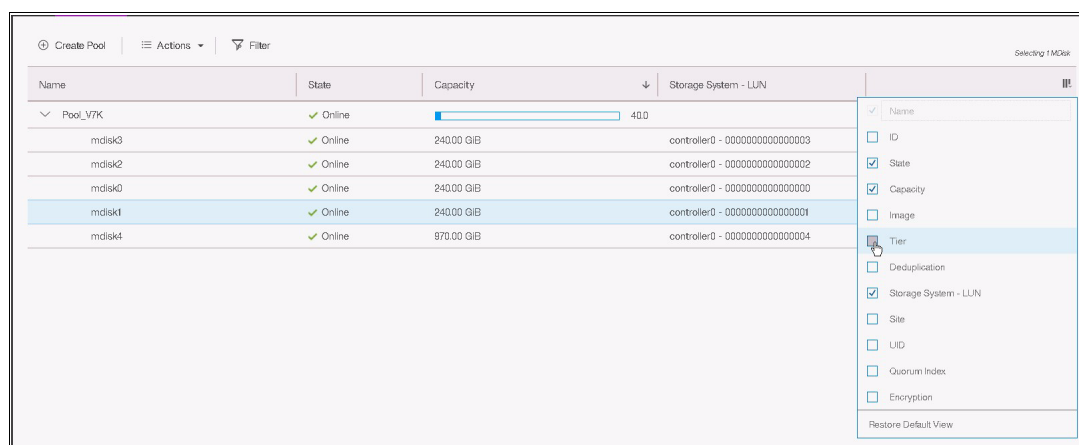

Figure 4-29 Customizing the title row to show the tier column
- If you do not see the Tier column, right-click the blue title row and select the **Tier** check box, as shown in Figure 4-29.